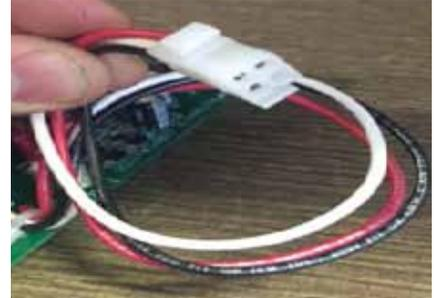

Figure 1
3. The unplugged pigtail to the control will have a Red, White and Black wire (sometimes also a brown one) Jump the RED and the WHITE together by sticking a paper clip or a bare wire into the white Molex plug of the control cable. (Fig. 1)